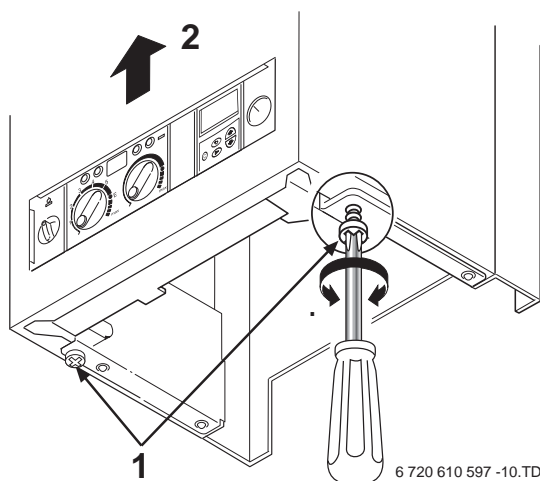

Fig. 13
- Remove retaining screws (1), see Fig. 13.
- Slide the outer case upwards and forwards to remove (2).